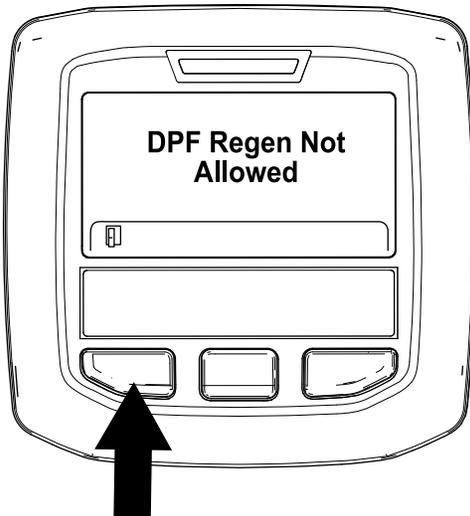

Figure 50
- If the regeneration process is not allowed by the engine computer, the “DPF Regen Not Allowed” message displays in the InfoCenter (Figure 50). Press the left button to exit to the home screen